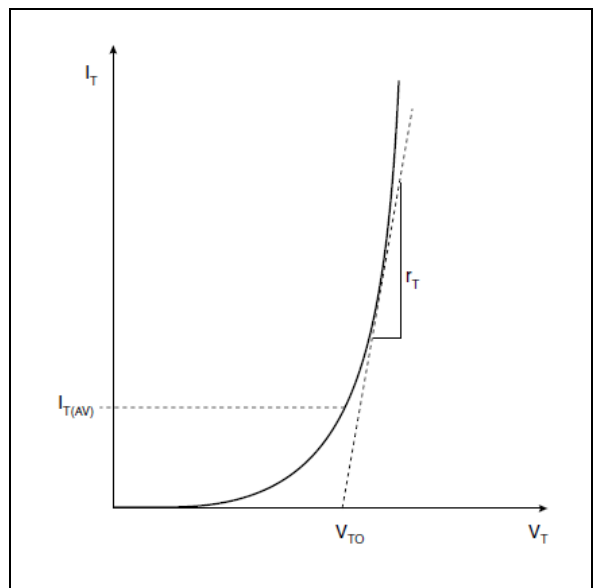

Fig. 4
4. As fig. 4, a tangential point constructed such that the value of $I_{T(AV)}$ calculated from: